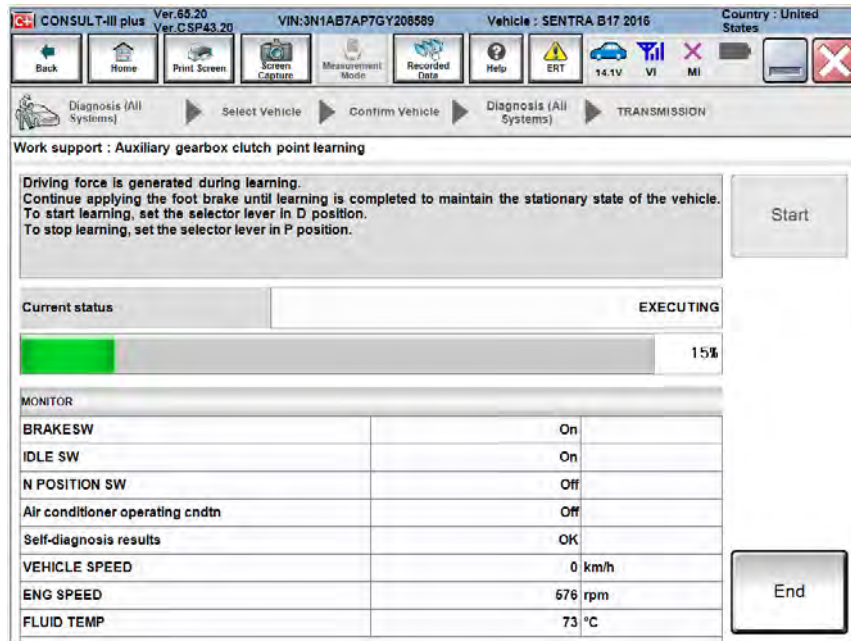

Figure 15Y
- Figure 15Y on the next page will be displayed after shifting into D position.